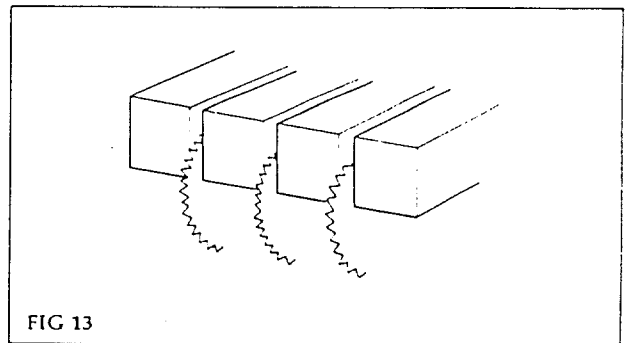

FIG 13
- Fig 13 Feed rolls drive chains tensioning
### Splitting (Fig 13)